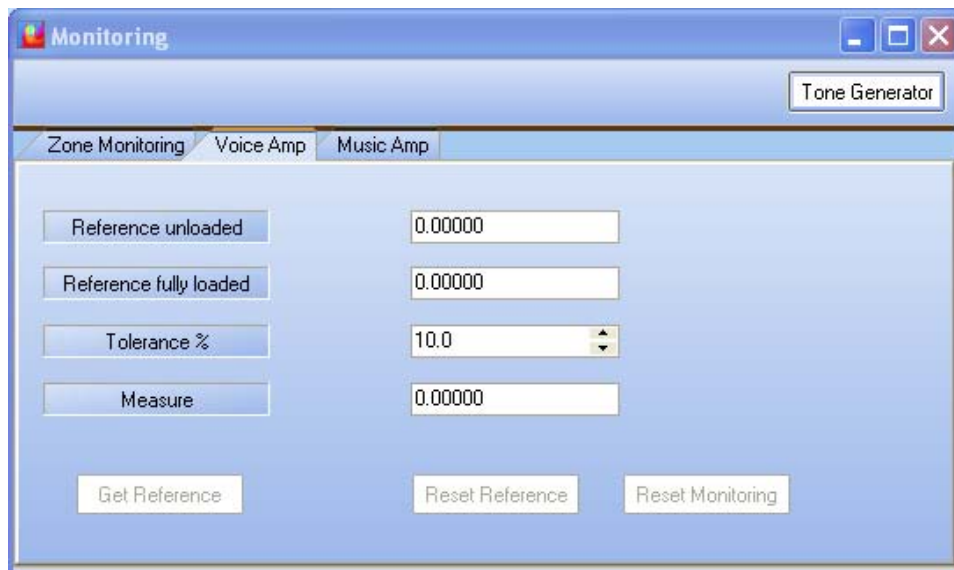

Figure 25: Voice Amp Monitoring Window
- The voice amp tab is illustrated on Figure 25.